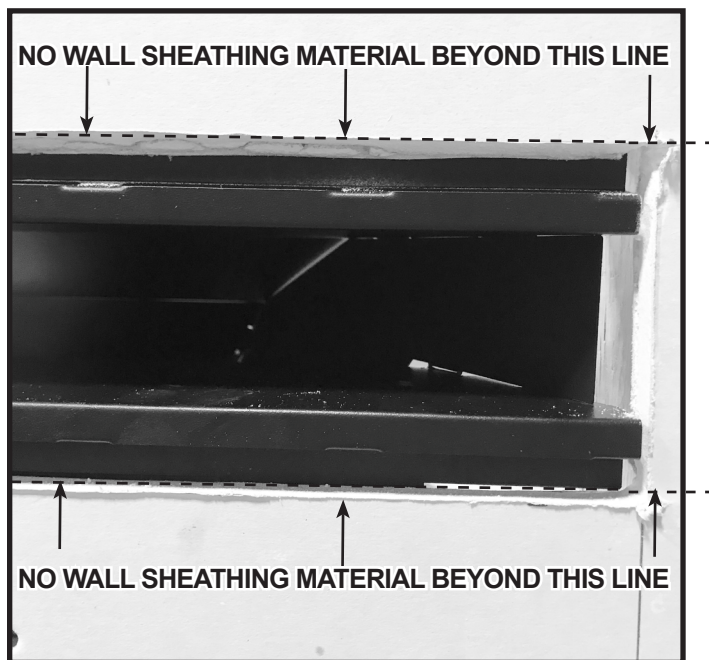

Figure 6.21 Wall Sheathing Installed
1. Apply wall sheathing material up to 1/2 inch thick up to the edge of the plenum. See Figure 6.21.